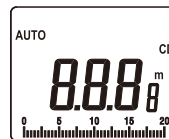

Figure 3-6-1
- Hold the “Lx/Fc/CD” button for one second and the display will switch to light intensity distance mode, where you can adjust the distance from the light source (as shown in figure 3-6-1).